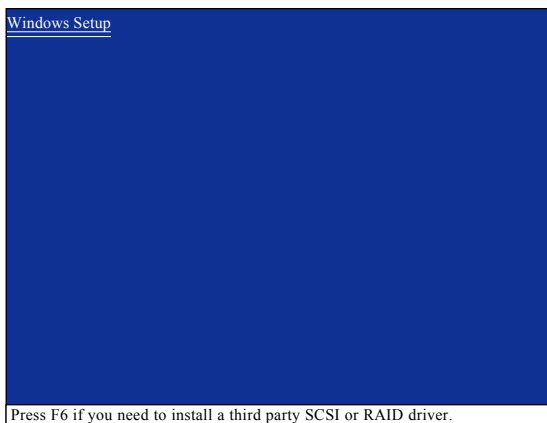

Figure 16
Step 1: Restart your system to boot from the Windows 2000/XP Setup disk and press F6 as soon as you see the "Press F6 if you need to install a 3rd party SCSI or RAID driver" message (Figure 16). After pressing F6, there will be a few moments of some files being loaded before you see the next screen.